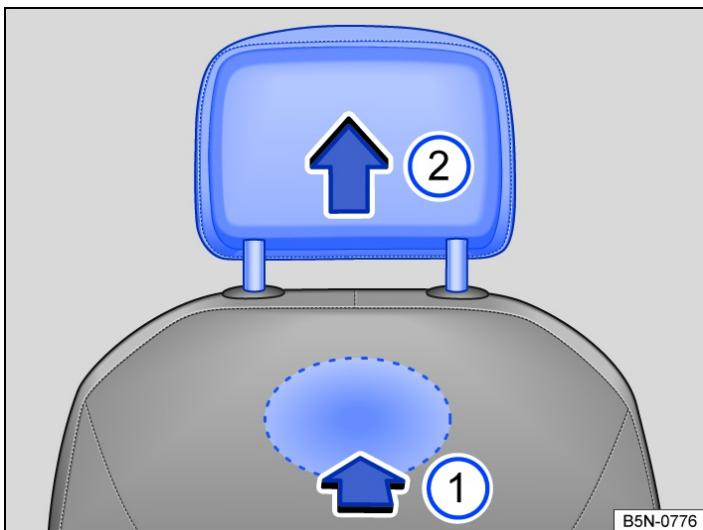

Fig. 1 Front head restraint: removing.
- To release the head restraint, feel for the recess in the marked area on the rear side and press it in the direction of the arrow → *Fig. 1* ①.
- Pull the head restraint out in the direction of the arrow → *Fig. 1* ②.